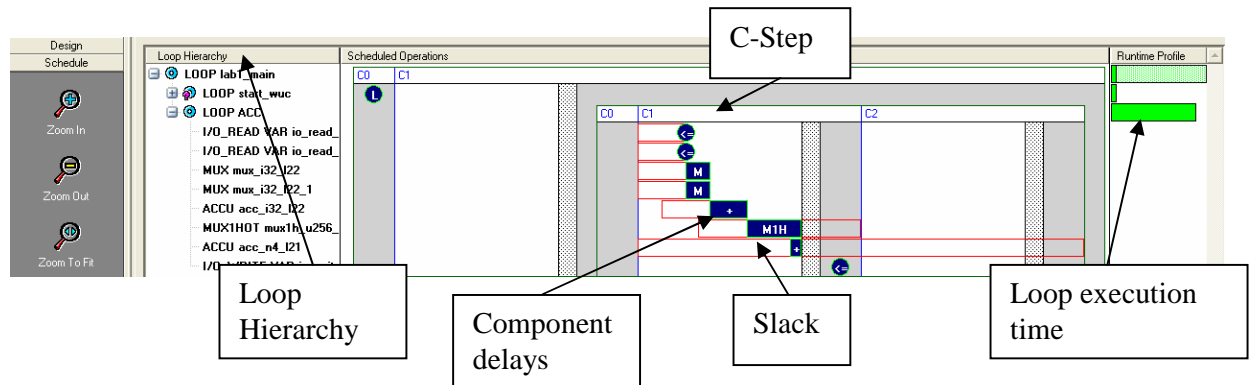

Figure 5 Gantt Chart
- ✓ Click on the “Schedule” icon in the design bar. This will bring up the Gantt chart, which is the main tool for algorithm analysis and is like the schematic viewer for the algorithm. It provides information on loops, components, slack, and control steps (C-steps) (Figure 5).